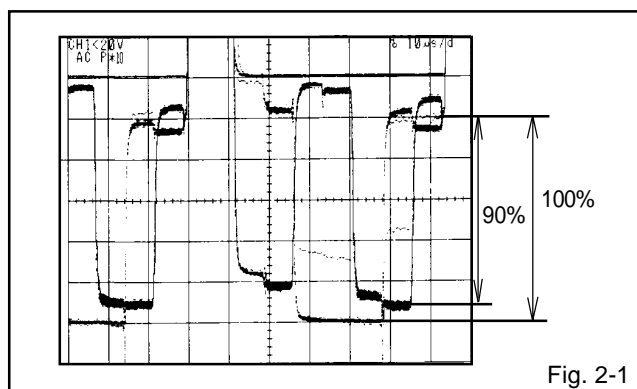

Fig. 2-1
6. Press the VOL. +/- button on the remote control until the red color level is adjusted to  $90 \pm 10\%$  of the white level. **(Refer to Fig. 2-1)**